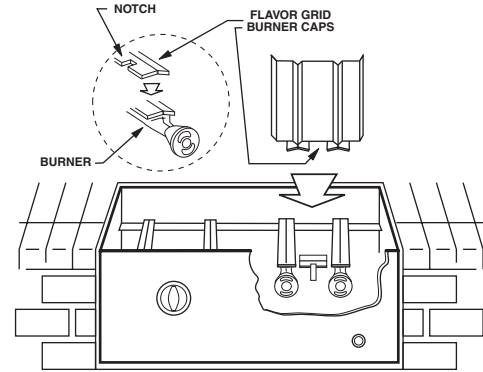

Figure 4 - Flavor Grid Diagram
a. Place the flavor grid burner caps directly on the burners. Make sure the notched end of the burner cap rests over the ignitor box (figure 4). Center the grids over the burners with the open side up. This allows heat from the burners to be evenly distributed throughout the cooking area. Flavor grids heat and cool quickly, making your Fire Magic barbecue very responsive to the changes you specify in grill temperature.